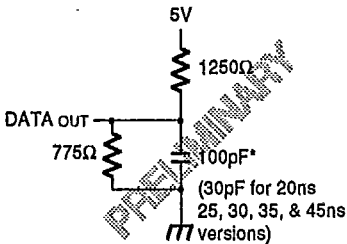

Figure 1. Output Load
Output Load	See Figures 1, 2, & 3
1. Transition is measured $\pm 500\text{mV}$ from low or high impedance voltage with load (Figures 1, 2 and 3).
1. Transition is measured $\pm 500mV$ from low or high impedance voltage with load (Figures 1, 2, and 3).